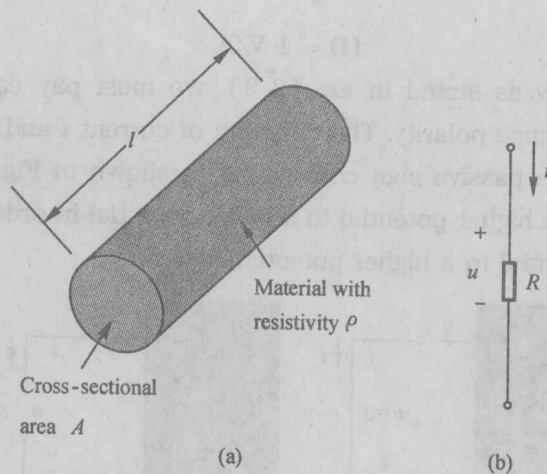

Fig. 2.1 Diagrams of:
Materials in general have a characteristic behavior of resisting the flow of electric charge. This physical property, or ability to resist current, is known as *resistance* and is represented by the symbol  $R$ . The resistance of any material with a uniform cross-sectional area  $A$  depends on  $A$  and its length  $l$ , as shown in Fig. 2.1 (a). We can represent resistance (as measured in the laboratory), in mathematical form,
*resistor*. For the purpose of constructing circuit, resistors are usually made from metallic alloys and carbon compounds. The circuit symbol for the resistor is shown in Fig. 2.1(b), where  $R$  stands for the resistance of the resistor. The resistor is the simplest passive element.